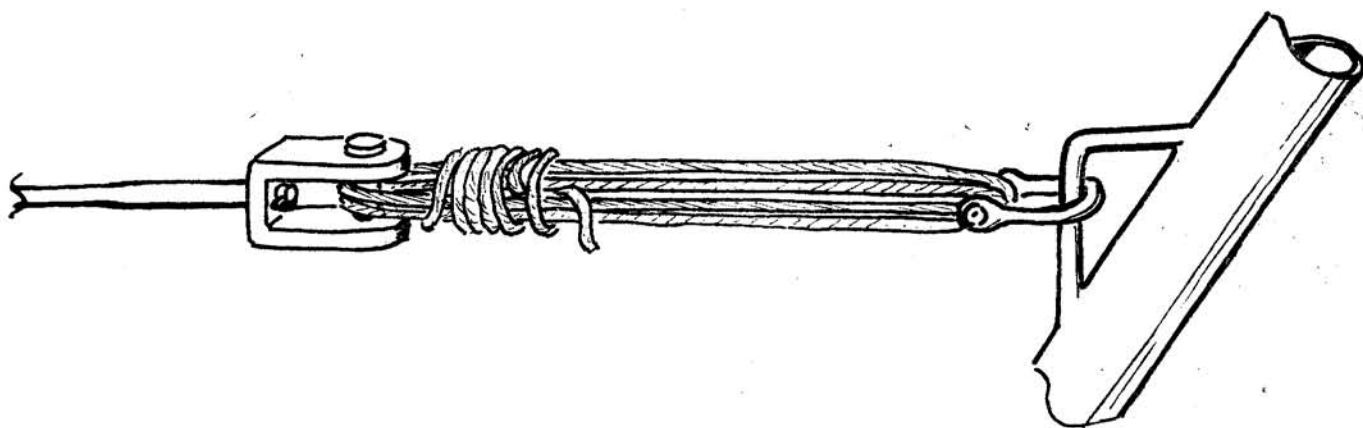

Fig. 6
24. Fix the boom, stanchions, lifelines, block and possibly sprayhood, etc. Tape round the lifelines at the stanchions to prevent the cover from being damaged. The lifelines are fixed to the aft pulpit as shown in Fig. 6.